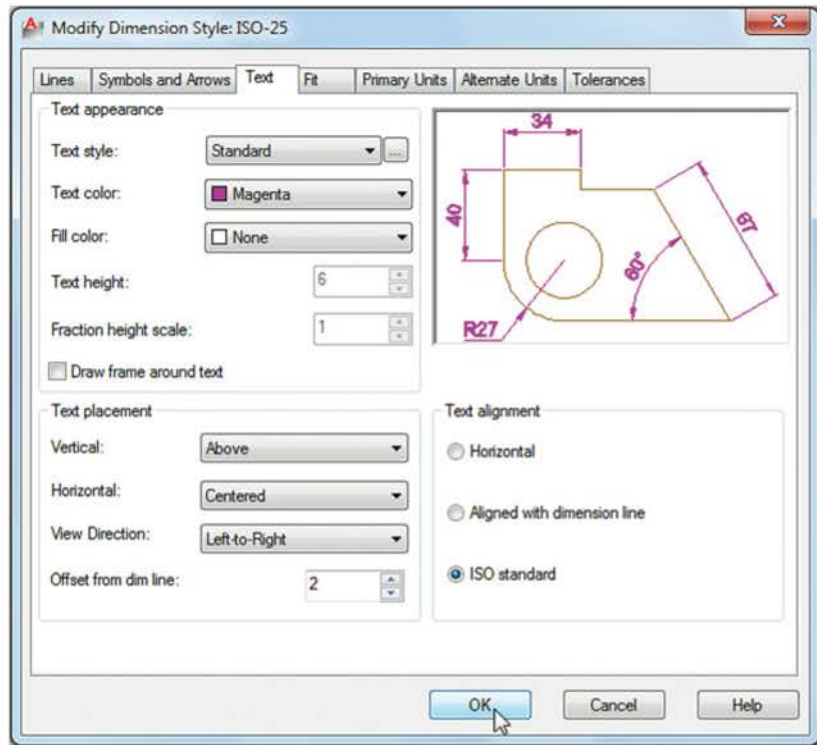

Fig. 5.12 Setting Text in the Dimension Style Manager
6. Then *click* the **Primary Units** tab and set the units **Precision** to **0**, that is no units after decimal point and **Decimal separator** to **Period**. *Click* the sub-dialogs **OK** button (Fig. 5.12).